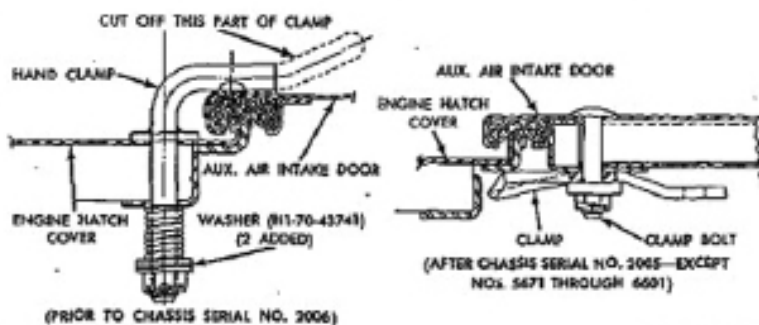

Figure 201—Auxiliary Air Intake Door Permanently Closed
f. **Auxiliary Air Intake Door (fig. 201).** Additional cooling advantage by use of auxiliary air intake is offset by danger of stalling engine by shipping water through door. Therefore, it is recommended that door be permanently closed on vehicles prior to chassis serial No. 7136 (except Nos. 5671 through 6601) as follows:
(1) Raise engine compartment hatch cover. Remove entire auxiliary